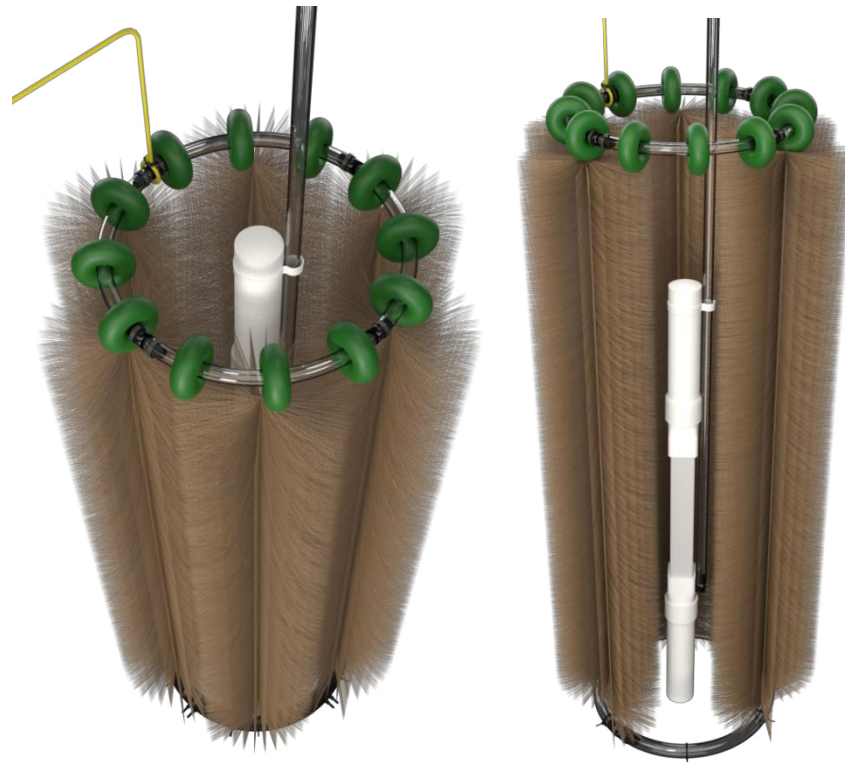

Figure 22, Diffuser Installation inside Bio-Brush Cluster
5. Fill the tank with water or wastewater prior to installation of the diffuser assembly. Slowly lower the air line and diffuser assembly into bio-brush cluster (Figure 22) in the location shown in approved plan. When the diffuser hits the bottom of the tank, you will feel the air line become light.